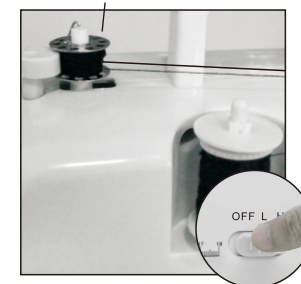

Fig.15
5. Switch on the machine to start winding (Fig. 15)